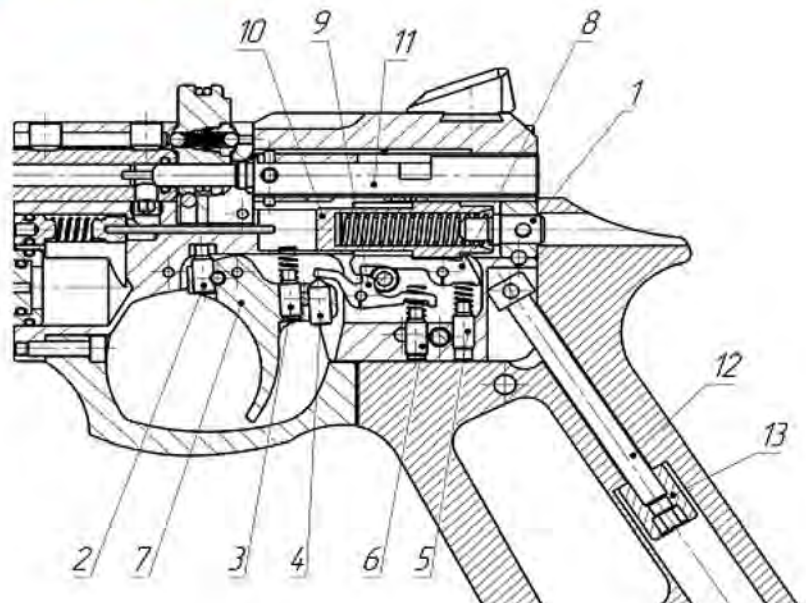

Figure 6
- Loosen the firing action spring by loosening the velocity adjustment screw (Fig. 6, number 1).